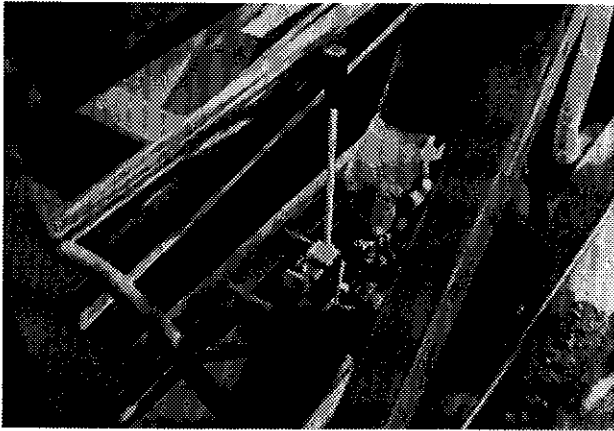

Figure 30
- 1) Before loading the first bale, disengage the pusher control valve by flipping the safety lock outward. (Fig. 30) Load the first bale on the machine, operate the control valve manually until the bale approaches the arms and stop it there.